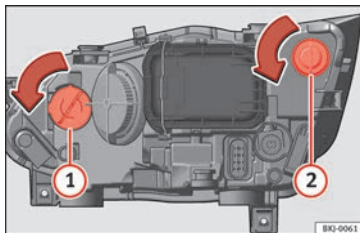

Fig. 98 In the engine compartment: turn signal bulb ① and DRL (daytime running light) bulb ②.
- Turn the bulb holder »»» Fig. 98 ① or ② to the left and pull.